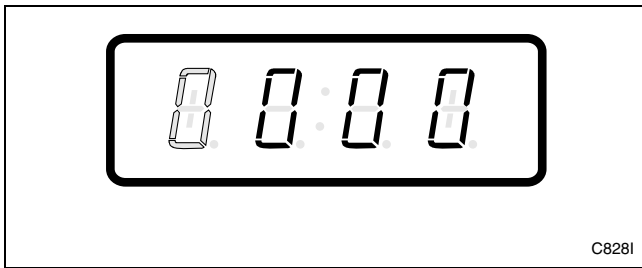

Figure 210
6. Press the START (enter) keypad to enter the fifth digit and display remaining four digits. The active digit will flash one second on and one second off. Refer to *Figure 210*.